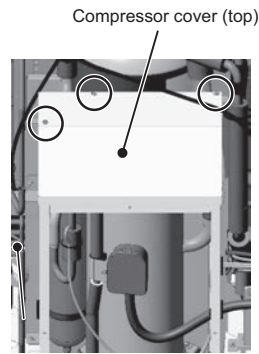

Figure 2
- (2) Remove the compressor cover (top). (3 screws, Figure 2)
- (3) Cut the cable ties holding TH4 and TH15, and remove the wires from the rubber bushing on the compressor cover (right).